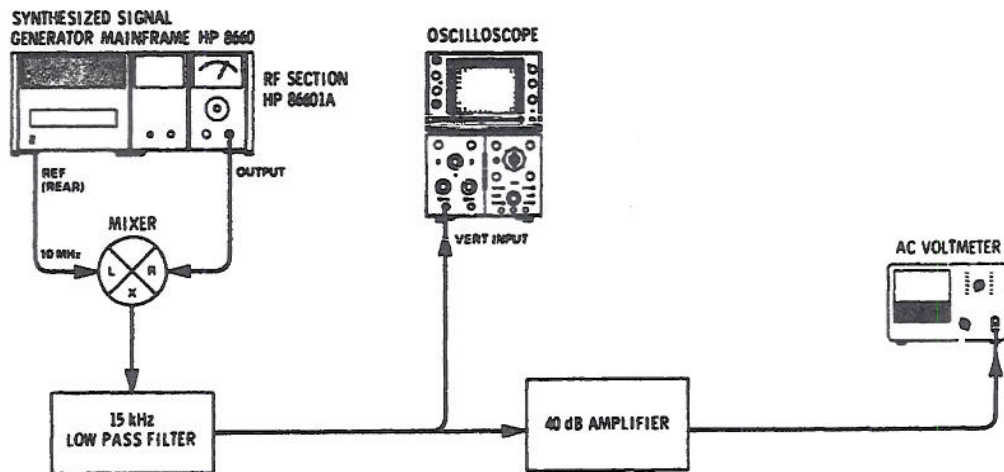

Figure 4-8. Signal-to-AM Noise Ratio Test Setup
1. Connect the equipment as shown in **Figure 4-8**.